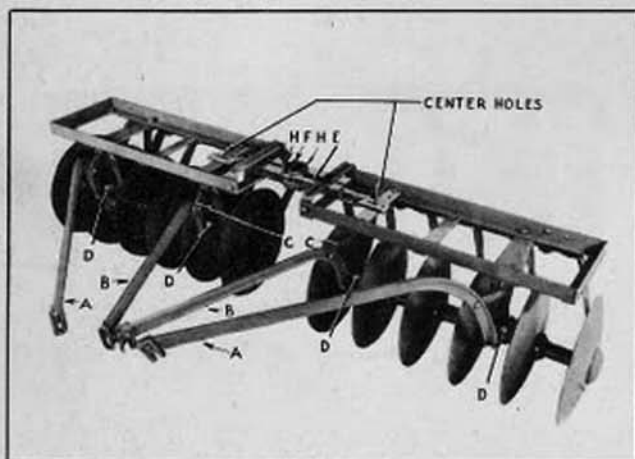

Fig. 13
- The outside trailer reaches A-A are marked "right" and "left" and should be fitted as shown. (Fig. 13)